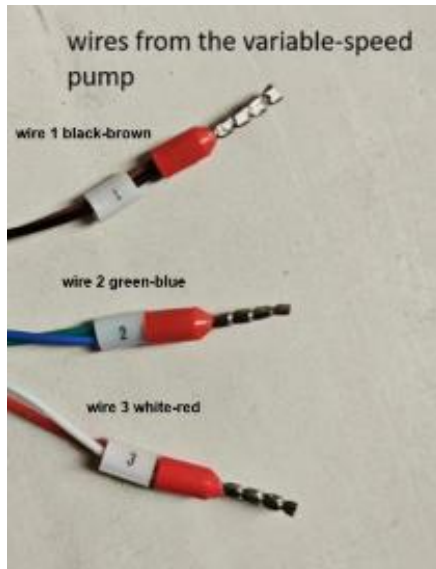

Figure 7a: IP65 pumps (007001PUMOP12, GEN001PUMOP24, GEN001PUMOP48) speed control wires
- Figure 7a: IP65 pump wiring diagram